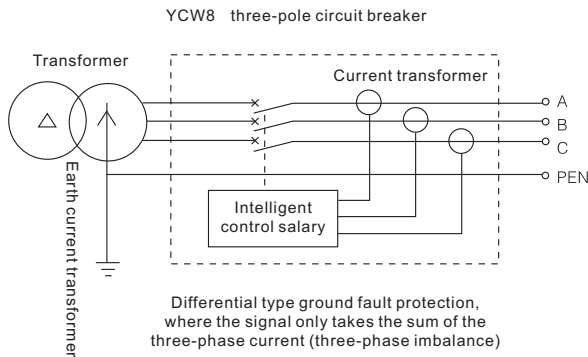
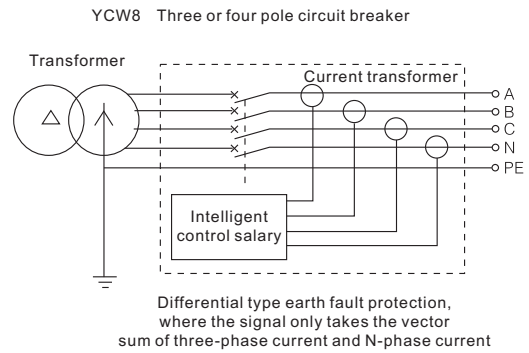
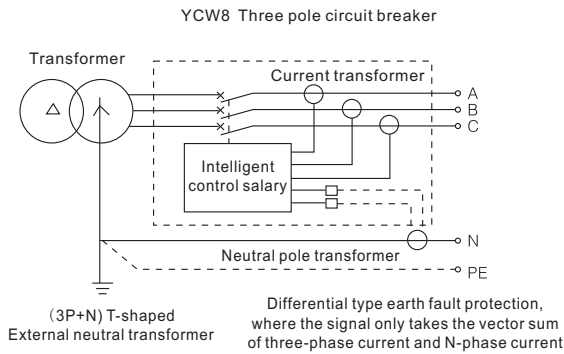

Figure 3 3PT grounding difference type
Figure 4 4PT grounding difference type
Figure 5 (3P+N) T grounding difference type
Single-phase earth leakage protection refers to the metallic grounding protection with fault current above a few hundred amps, generally used for neutral direct grounding system. The controller is divided into two different protection modes, one is the difference type (T). The controller can be protected into three forms: 3 PT, 4 PT and (3P + N), see Figure 3, Figure 4 and Figure 5 respectively. The other is the ground current type (W), where the controller directly takes an additional current transformer output current signal between the neutral point of the main power source and the ground for protection, and the transformer N line and PE